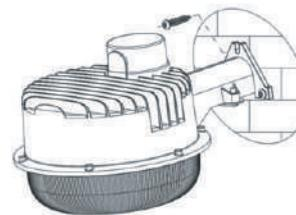

Fig.3
4. Hook the fixture onto the two inserted screws, then insert and tighten the top screw, as shown in Fig. 3. Finally, tighten the two lower-most screws.